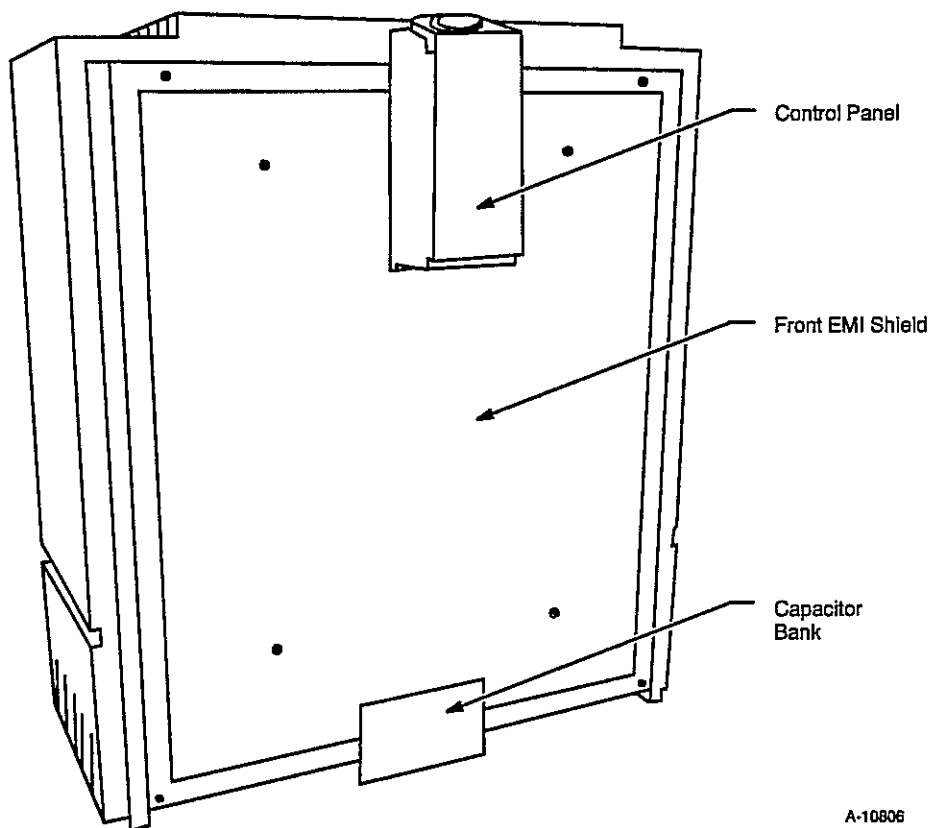

Figure 7-5. Front Panel Spring Catch (1 per Corner)
1. Push up on the lower two spring catches at the bottom of the front curved panel piece (one spring catch is located in each corner) and pull the panel out to prevent it from latching again. Refer to Figure 7-5. The bottom of the panel has now been released and is hanging from the panel-mounting screws. Refer to Figure 7-6.
3. Push up on the lower two spring catches at the bottom of the back cut-out panel piece (one spring catch is located in each corner) and pull the panel out to prevent it from latching again. Refer to Figure 7-5. The bottom of the panel has now been released and is hanging from the panel-mounting screws. Refer to Figure 7-6. Gently lift this piece off of the mounting screws.
1. Release the lower two spring catches (Figure 7-5) located on the bottom of the panel (one spring catch is located in each corner) and push up on the release rod. The bottom of the panel has now been released and the panel is hanging from the panel-mounting screws. Refer to Figure 7-6.